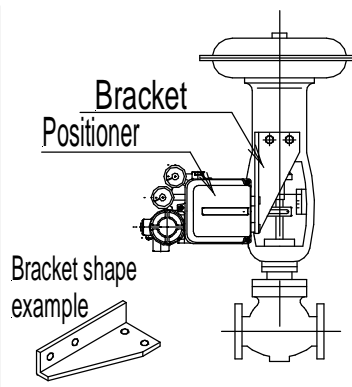

Fig.6 L-shape bracket
When the input current increases, armature (14) receives counter-clockwise rotation torque with leaf-spring (12) of torque motor (13) functioning as the support, counter-weight (4) is pushed towards left, the space between nozzle (6) and flapper (5) opens and the nozzle back pressure decreases. As the result, exhaust valve (7) of pilot valve (1) moves to right, the output pressure of OUT1 increases and the output pressure of OUT2 decreases, starting the rotation of rocking actuator (16). The movement of rocking actuator (16) acts on feedback spring (10) through feedback shaft, cam (8), span adjusting lever (9) and transmission lever (15) and the actuator is balanced at the position where it balances with the force generated by the input current. Fig.6 shows the case of cam DA structure normal actuation (the main shaft of rocking actuator (16) turns clockwise at the time the input current increases).